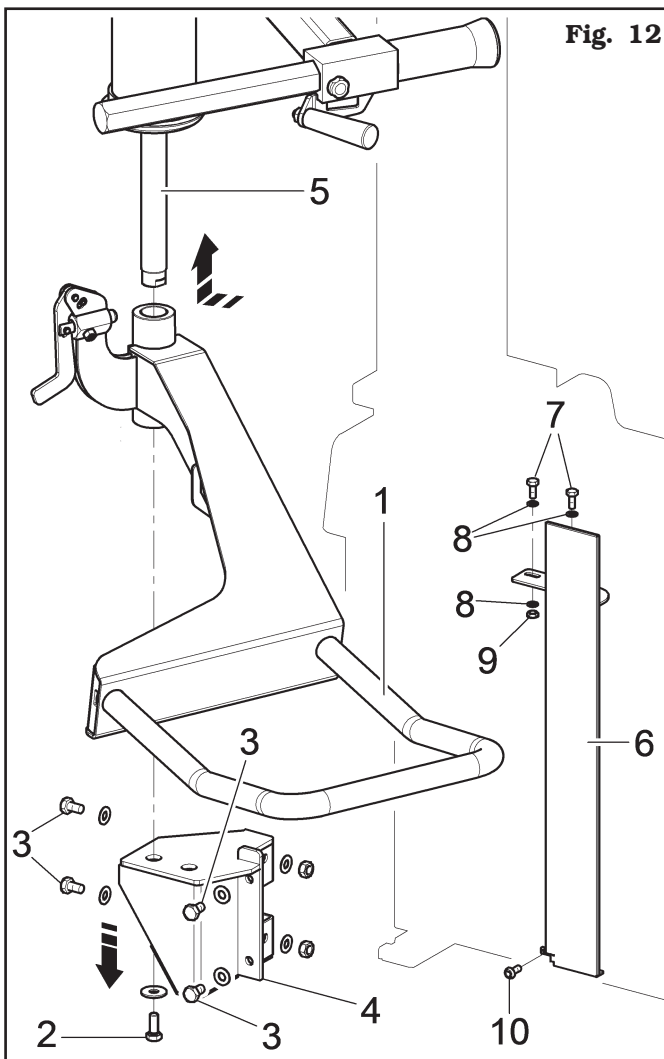

Fig. 12
Unscrew the screw fixing the cylinder (**Fig. 12 ref. 2**) and the screws (**Fig. 12 ref. 3**) fixing the lower bracket (**Fig. 12 ref. 4**) to the machine. Extract the bracket downwards (**Fig. 12 ref. 4**) from the shaft (**Fig. 12 ref. 5**). Mount the lifting device unit (**Fig. 12 ref. 1**) to the device as indicated in the figure. At the end mount the lower bracket again following the operations described above in reverse order.
Fix the rotation stopper on the lateral part of tyre changing machine's frame (**Fig. 12 ref. 6**), as illustrated in the figure, using the supplied screws (**Fig. 12 ref. 7**) (# VS203058), washers (**Fig. 12 ref. 8**) (# VS236007) and nuts (**Fig. 12 ref. 9**) (# VS228307). Use the screw (**Fig. 12 ref. 10**) for casing fixing to fix rotation stopper's lower part (**Fig. 12 ref. 6**).